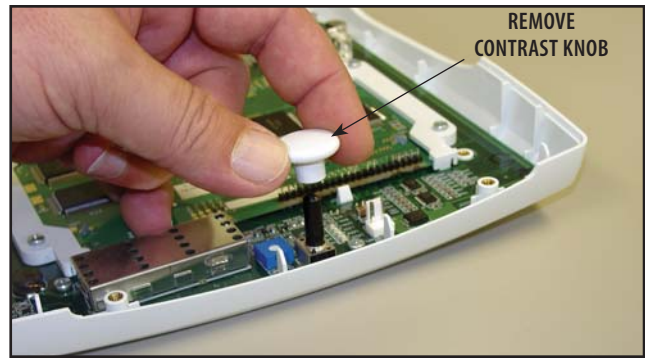

FIGURE 6.18
5. Remove the Contrast Control Knob. **See Figure 6.18.**